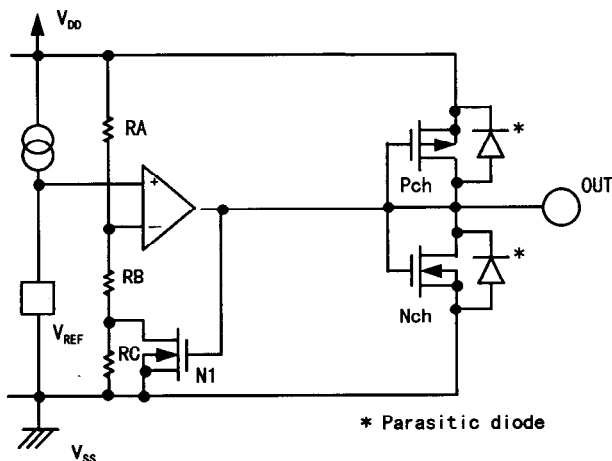
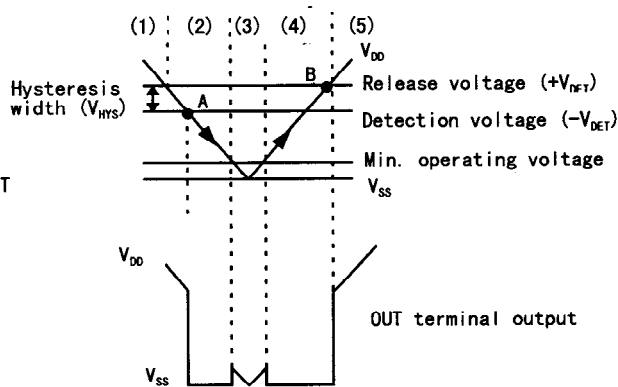

Figure 12
Figure 13
The hysteresis width is the voltage difference between the detection voltage and the release voltage ($B-A=V_{HYS}$ in Figure 13). By giving a device hysteresis, trouble such as noise at the input is avoided.
- (1) When power supply voltage V_{DD} is greater than the release voltage $+V_{DET}$, the Nch transistor is OFF and the Pch transistor ON, causing V_{DD} (high) to appear at the output. With the Nch transistor N1 of Figure 12 OFF, the comparator input voltage is $(RB+RC)/(RA+RB+RC) \times V_{DD}$.
- (2) When power supply voltage V_{DD} goes below $+V_{DET}$, the output maintains the power supply voltage level, as long as V_{DD} remains above the detection voltage $-V_{DET}$. When V_{DD} does fall below $-V_{DET}$ (A in Figure 13), the Nch transistor goes ON, the Pch transistor goes OFF, and V_{SS} appears at the output. With the Nch transistor N1 of Figure 12 ON, the comparator input voltage is $RB/(RA+RB) \times V_{DD}$.
- (3) When V_{DD} falls below the minimum operating voltage, the output becomes undefined. However, output will revert to V_{DD} if a pull-up has been employed.
- (4) V_{SS} will again be output when V_{DD} rises above the minimum operating voltage. V_{SS} will continue to be output even when V_{DD} surpasses $-V_{DET}$, as long as it does not exceed the release voltage $+V_{DET}$.
- (5) When V_{DD} rises above $+V_{DET}$ (B in Figure 13), the Nch transistor goes OFF, the Pch transistor goes ON, and V_{DD} appears at the output.